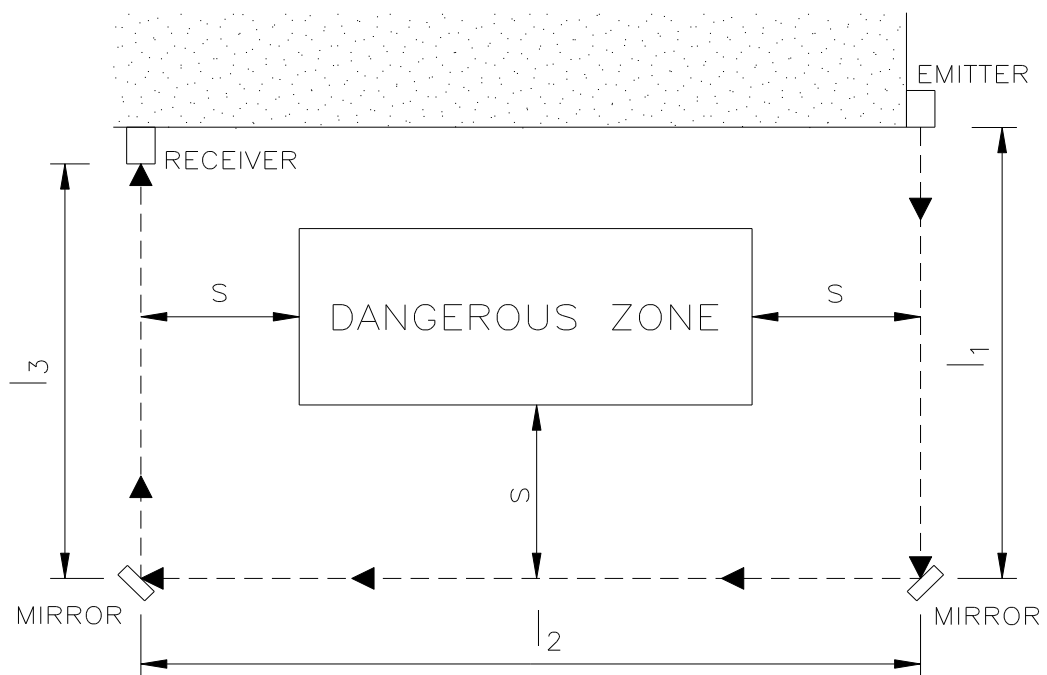

Figure 14
- Place the mirrors so as to ensure compliance with the minimum safety distance **S** (Figure 14) on each side from which the danger zone can be accessed.